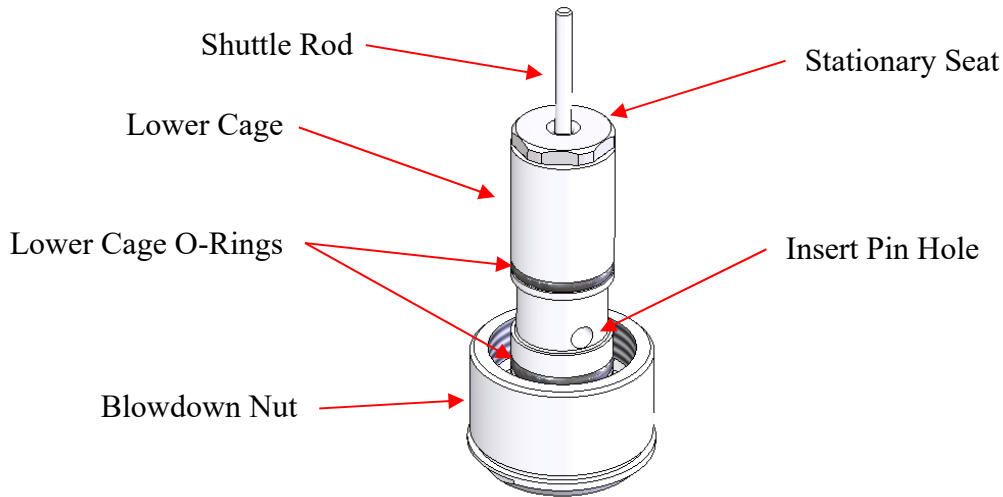

Figure 31: Lower Cage Subassembly
20. Place a 0.175 in. (4.5 mm) metal rod into the hole on the side of the lower cage to rigidly affix it and prevent rotation. See Figure 31.
24. Remove the two o-rings from the outer diameter of the lower cage. See Figure 31.